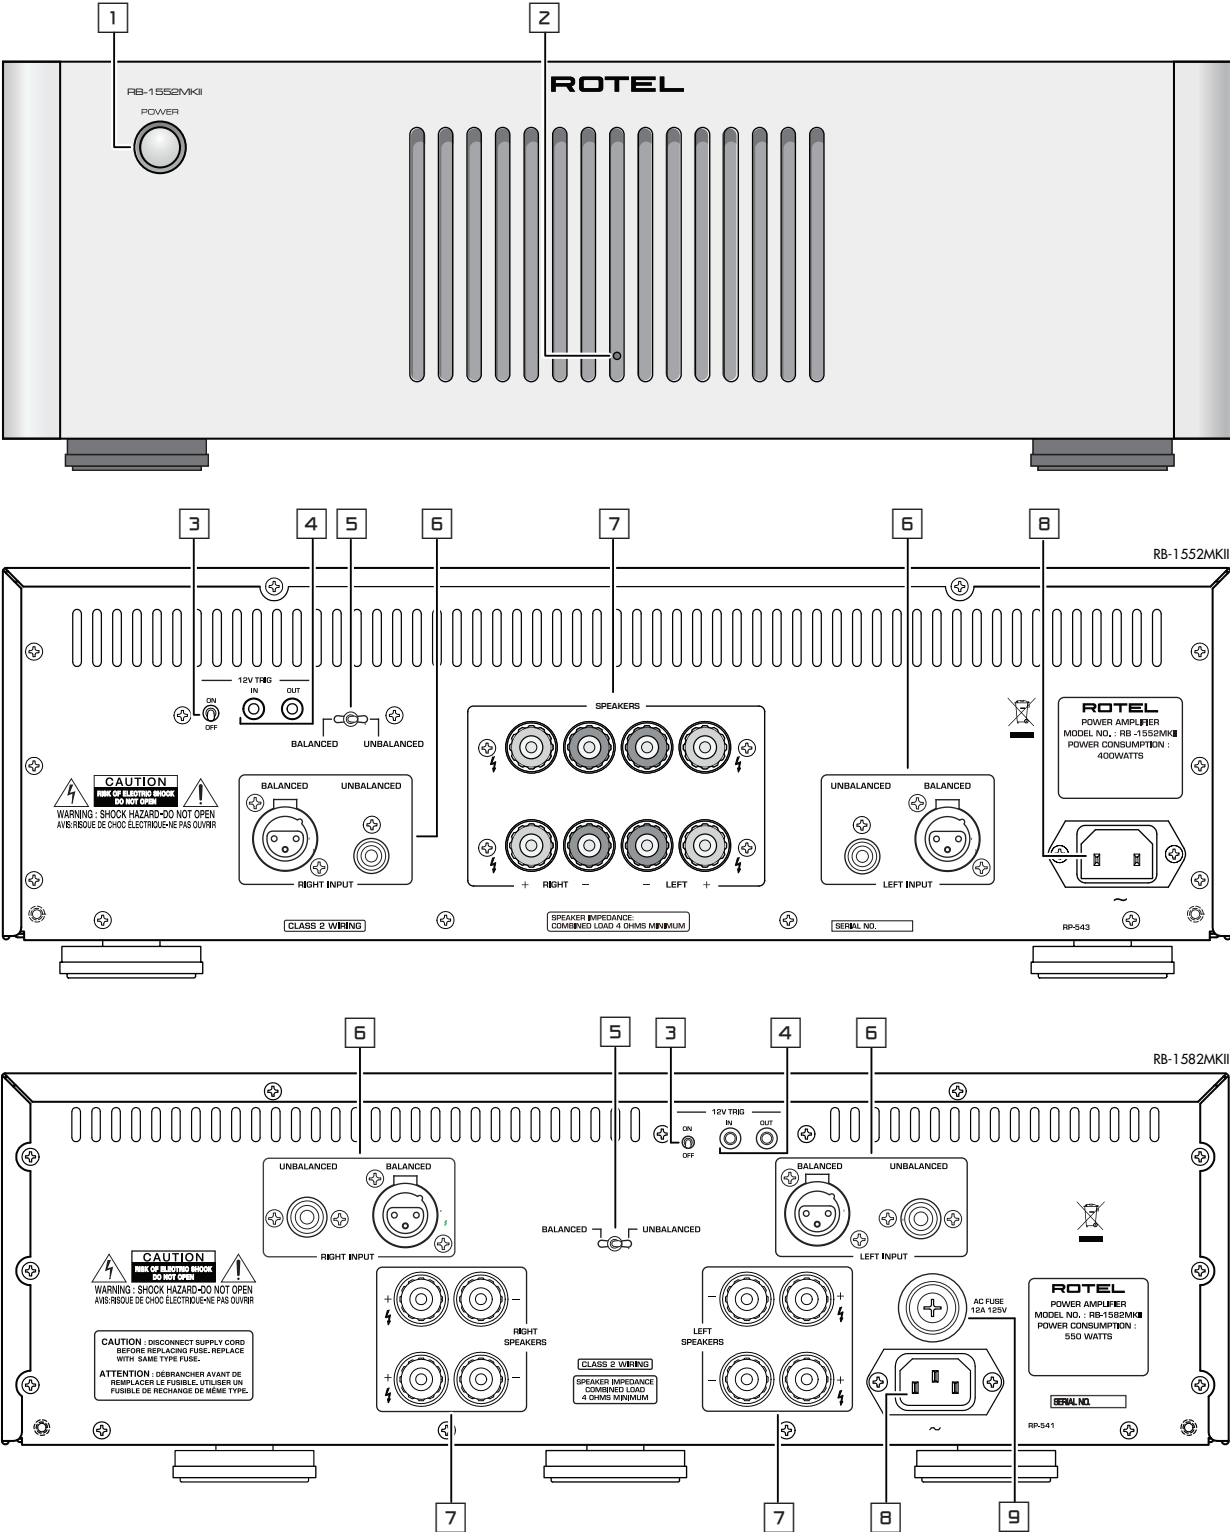

Figure 2: Analog Inputs and Speaker Output Connections
- Figure 2: Analog Inputs and Speaker Output Connections 4